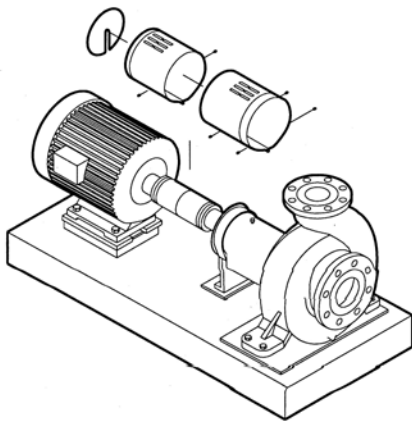

Figure 12:
2. Build dam around foundation. Thoroughly wet foundation (Fig. 12).
3. Pour grout through grout hold in baseplate, up to level of dam. Remove air bubbles from grout as it is poured into place. Non-shrink grout is recommended (Fig. 12).